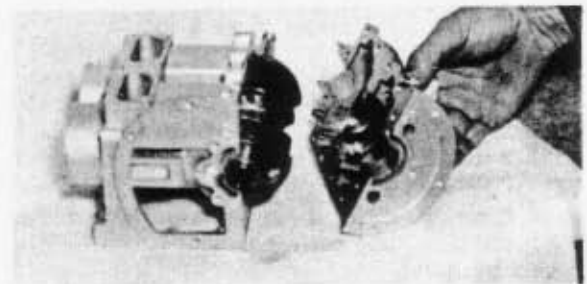

Figure 5-6
J. Spread thin film of 3M sealer on parting faces of block and case assembly. When assembling case and block, lay assembly on side so cam followers do not drop out of place. (Refer Fig. 5-6).